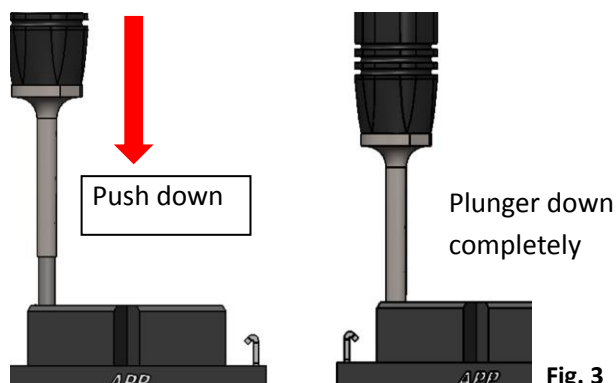

Fig. 3
- E. Stop applying force when the center plunger has receded back to the outer tube (Fig. 3). The total travel of the center plunger is 7.5mm [.30 inches]